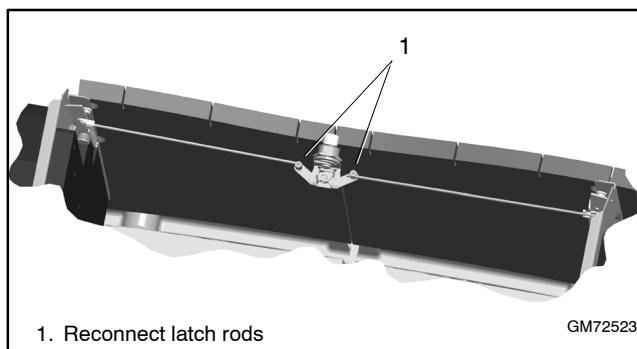

Figure 6-30 Door Latch Detail
- d. Install the right side panel and reconnect the door latch rods (original latch design only). See Figure 6-30.